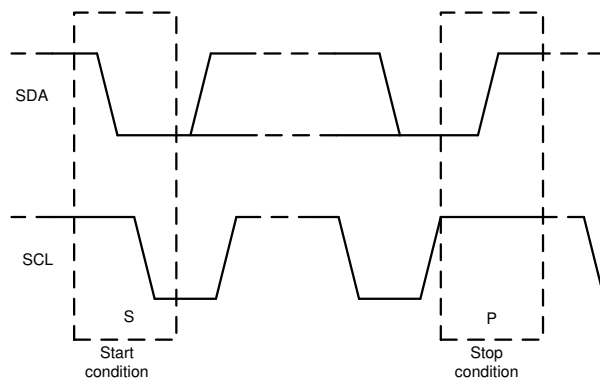

Figure 7-12. Start and Stop Conditions
1. The controller initiates data transfer by generating a start condition. Figure 7-12 shows that the start condition is when a high-to-low transition occurs on the SDA line while SCL is high. All I²C-compatible devices recognize a start condition.
4. Figure 7-12 shows that to signal the end of the data transfer, the controller generates a stop condition by pulling the SDA line from low-to-high while the SCL line is high. This action releases the bus and stops the communication link with the addressed target. All I²C-compatible devices recognize the stop condition. Upon receipt of a stop condition, the bus is released, and all target devices then wait for a start condition followed by a matching address.